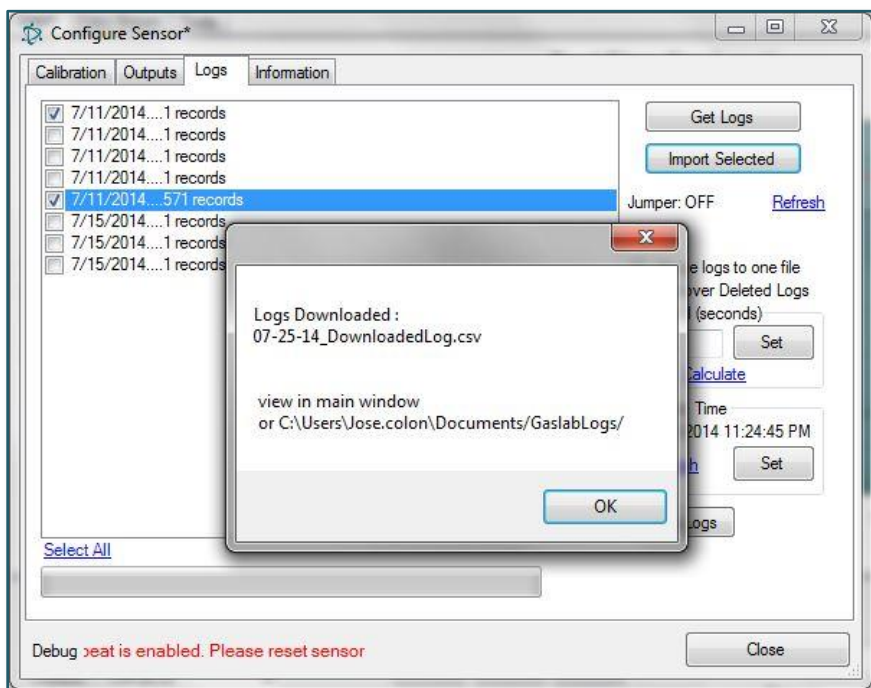

Figure 23: Log files location
11. When completed, the file location will be displayed as shown in **Figure 23**. Click **OK** to continue.